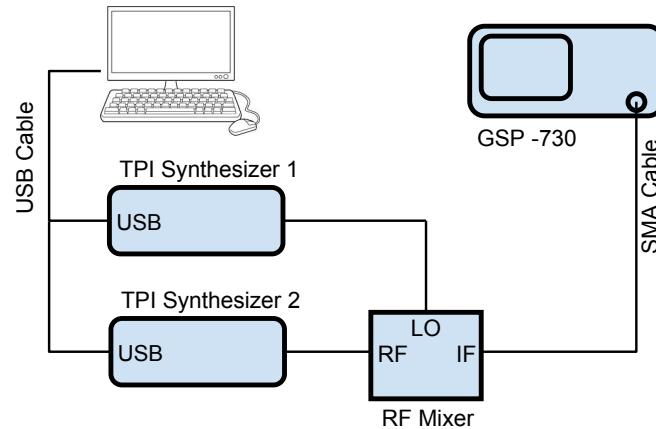

Figure 2: Mixer characterization setup.
1. Connect the system based on the schematic shown in Fig. 2.